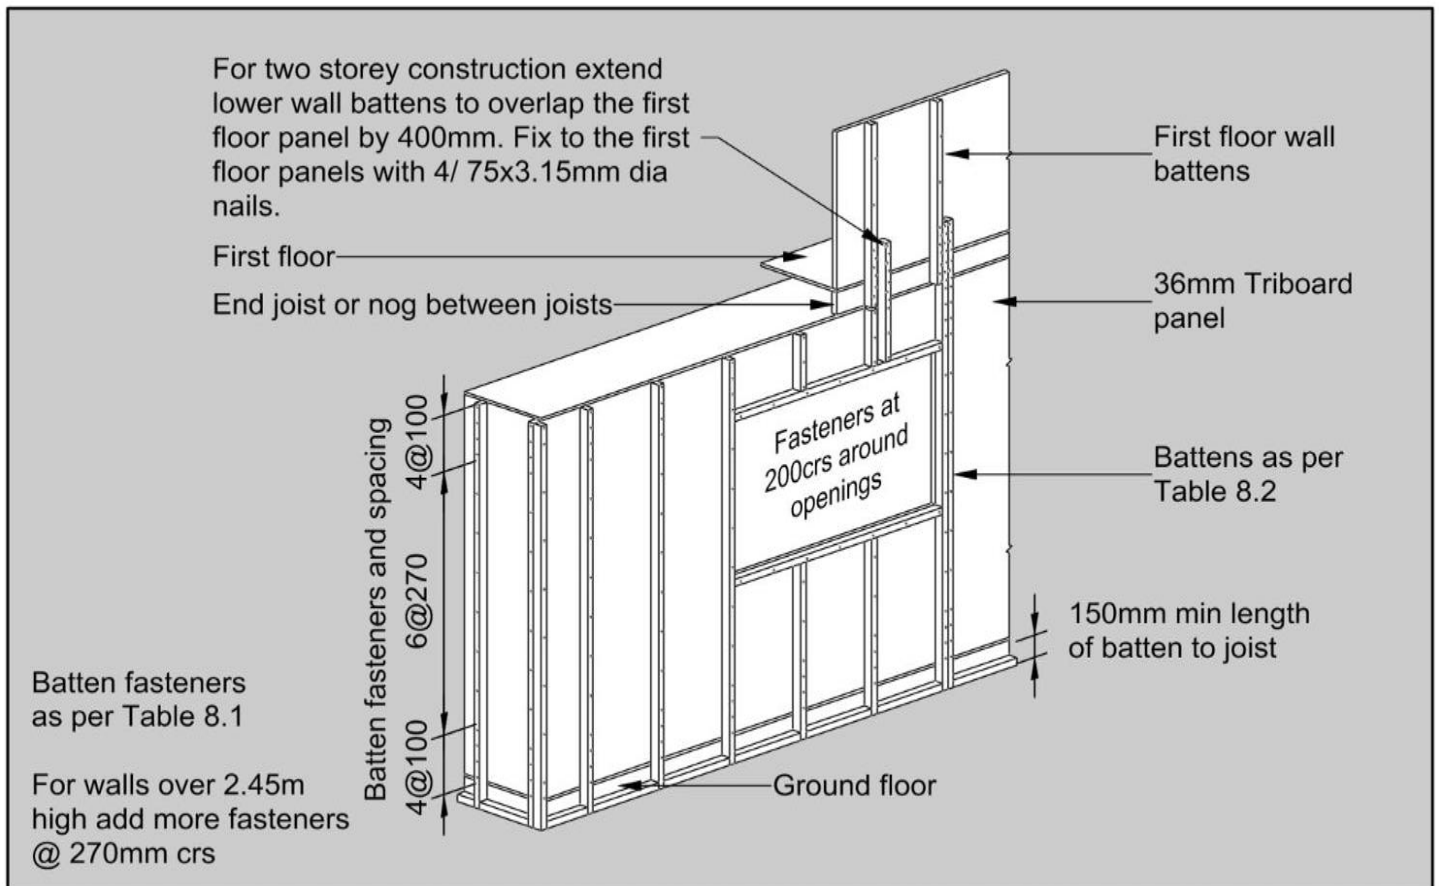

Figure 8.1 - Batten fixings
The battens shall be as specified in Section 2.3.5 and shall have a moisture content not exceeding 18% at the time of fixing. Battens shall be of a size and spacing to comply with Table 8.2. Battens shall be used on the exterior face of all panels used as external walls, at all edges of all openings and at building corners in the building facade as shown in Figure 8.1.
Double Battens with twice the nailing as shown in Figure 8.1 are required at the following locations:-
Battens shall be fixed to the panel and adjacent structure as illustrated in Figure 8.1 and figure 8.1(A) using either hot dipped galvanised nails or screws of size given in Table 8.1. The minimum spacing for nails and screws is shown in Figure 8.1 for timber battens and in Figure 8.1(A) for Superstrand battens. Where required the nails shall be angled to prevent dimpling of the inside surface. At the top and bottom of each panel the batten shall be fastened to the panel with two screws or four nails at 100 mm centres.
Lower floor battens shall be fastened to the joist or blocking below as illustrated in Figure 8.1 using either: